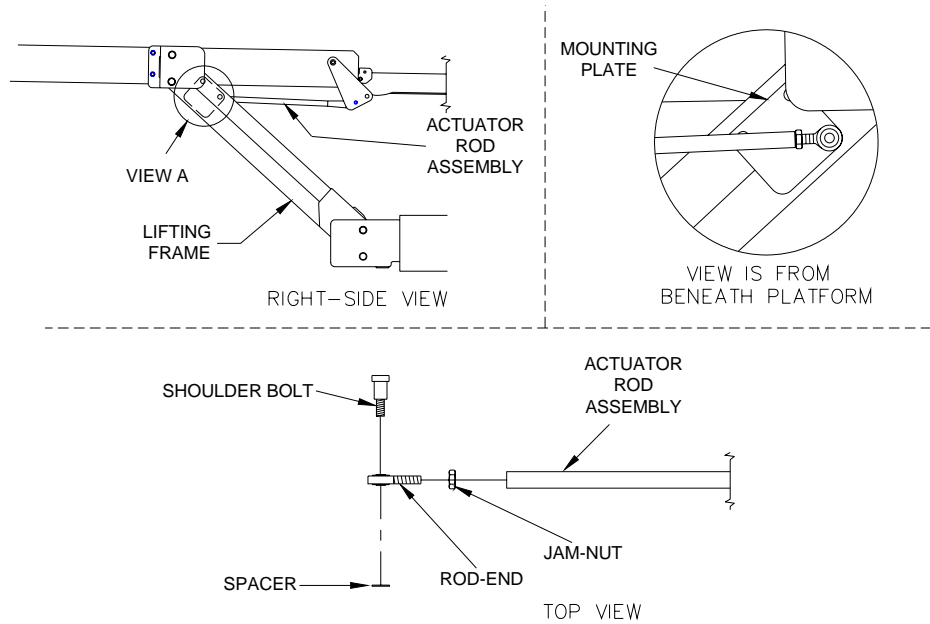

FIGURE 2-2: BRIDGEPLATE ACTUATOR ROD ASSEMBLY
- d. Refer to **Figure 2-2** on following page. Locate rod-end portion of actuator rod assembly at right side of platform (between junction of lifting frame and platform). Loosen rod-end jam-nut.